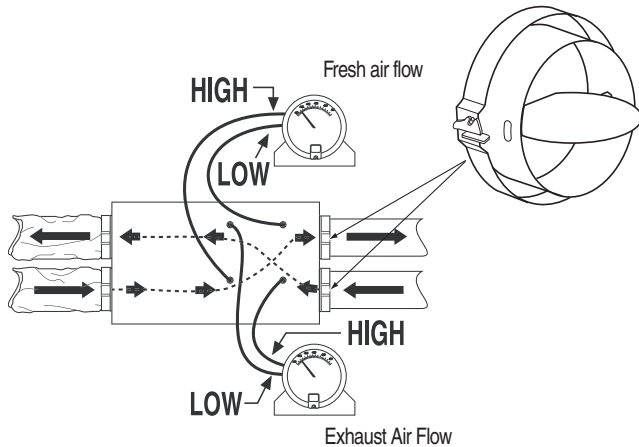

Fig. 16 - Balancing HRVCLLHA
**NOTE:** Temporary flow collars are not needed with the new HRVCLLHA models since the air flow pressure taps are incorporated in the access door (see Fig. 16).
Flow collars are temporary and should be installed as close to HRV as possible and in straightest sections of duct to ensure accuracy (see Fig. 16). If only 1 flow collar is available, install collar in stale-air duct of HRV, and record airflow. Next, install collar in the fresh-air duct and record airflow. If 2 flow collars are available, it will be much easier to read airflow and properly adjust dampers to balance unit.